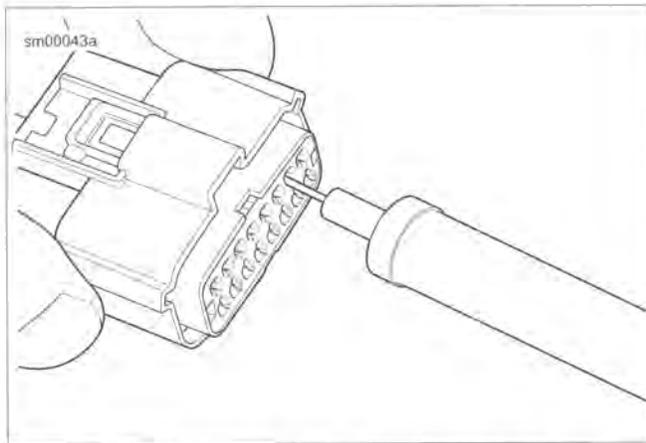

Figure A-50. Molex MX 150 Sealed Connector; Terminal Remover (HD-48114)
2. See Figure A-50. Insert TERMINAL REMOVER (Part No. HD-48114) into the pin hole next to the terminal until the tool bottoms.